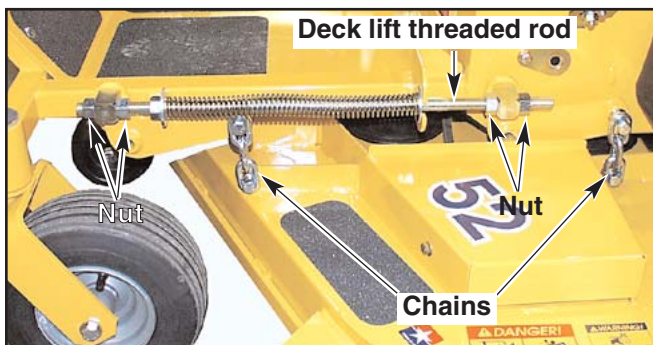

Figure 9-36
6. Loosen all nuts on the deck lift threaded rods, and the hardware on the adjuster (on the right front), until all the deck lift chains are loose, and the deck is sitting tightly on all four blocks. Fig. 9-36, 9-37, 9-38
24. Make sure that there is still slack in the chain. If not, loosen the two nuts on the block holding the threaded rod until there is slack in the deck lift chain. Fig. 9-36